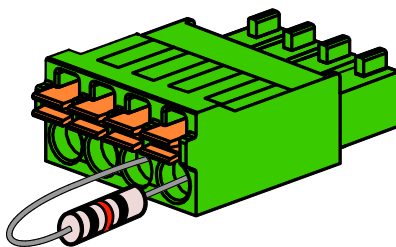

Figure 43: Connector with Terminating Resistor
13. Insert the grounding conductor and drain wire in the Powerwall chassis Earth terminal (Fig. 43). The Earth terminal is identified with the following symbol: . Tighten the screw in the Earth terminal to 4.5 Nm.